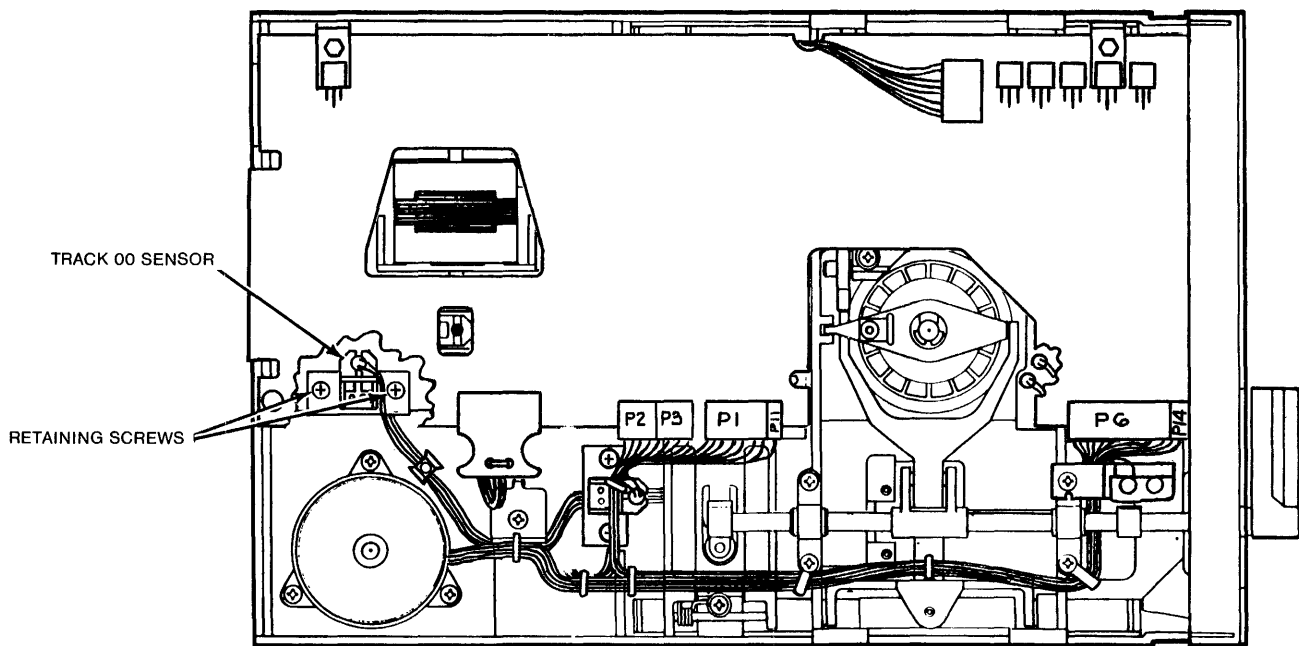

Figure 2-8
- K. Seek out to Track 2, and loosen the two retaining screws that hold the Track 00 sensor (see Figure 2-8).